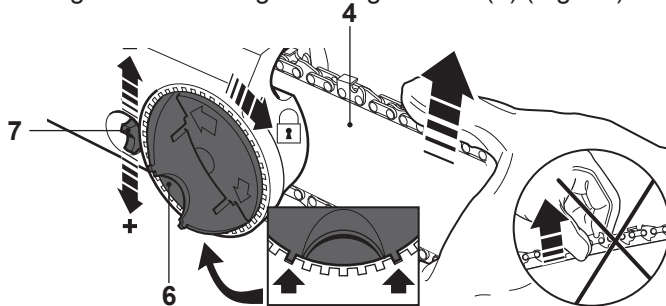

Fig. 10
- > Lift up the tip of the guide bar (4) and keep it there as you adjust the tension.
- > Turn the tension wheel (7) until the chain “tie straps” are just touching the bottom edge of the guide bar (4) (Fig. 10).
- > Turn the locking wheel (6) to tighten the cover (8) completely (Fig. 10). Ensure the two latches snap into the grooves.